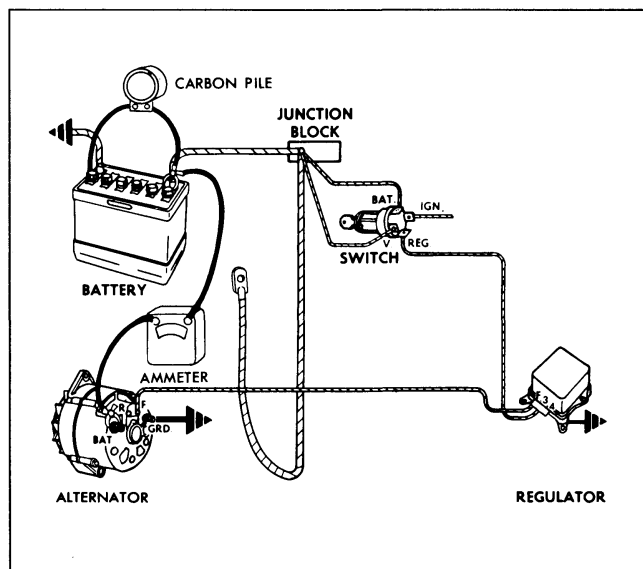

Fig. 11-27 Ammeter Measuring Output
4. Disconnect ammeter lead from alternator output lead and connect ammeter lead to positive terminal of battery (Fig. 11-27).